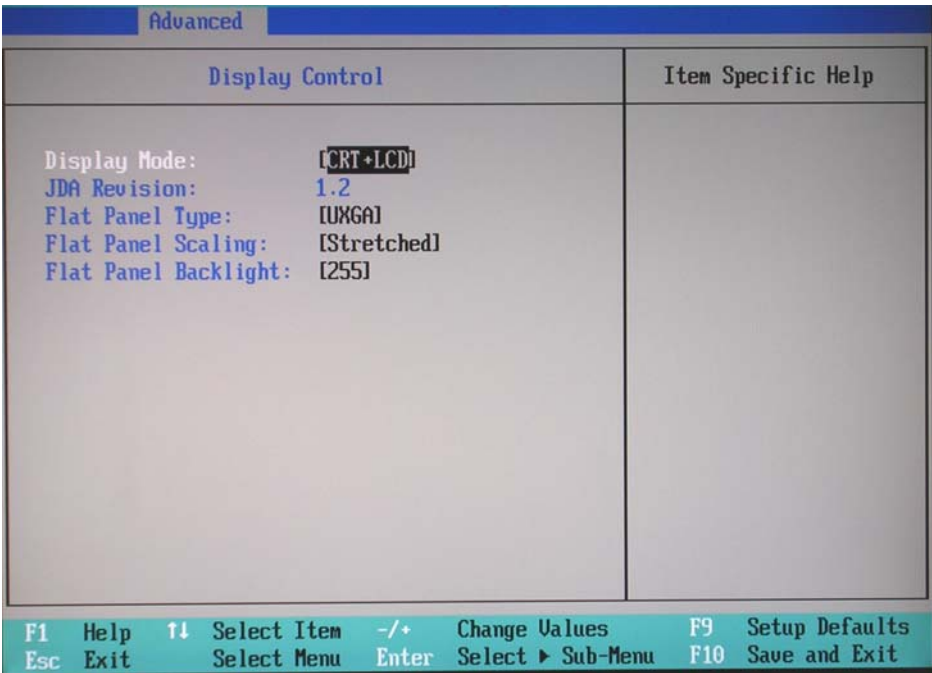

Figure 8-64 BIOS Advanced Display Control Parameters
Display Control	Figure 8-64 on page 8-74
- 24.) Set the parameters in the **Display Control** screen as shown above in Figure 8-64.